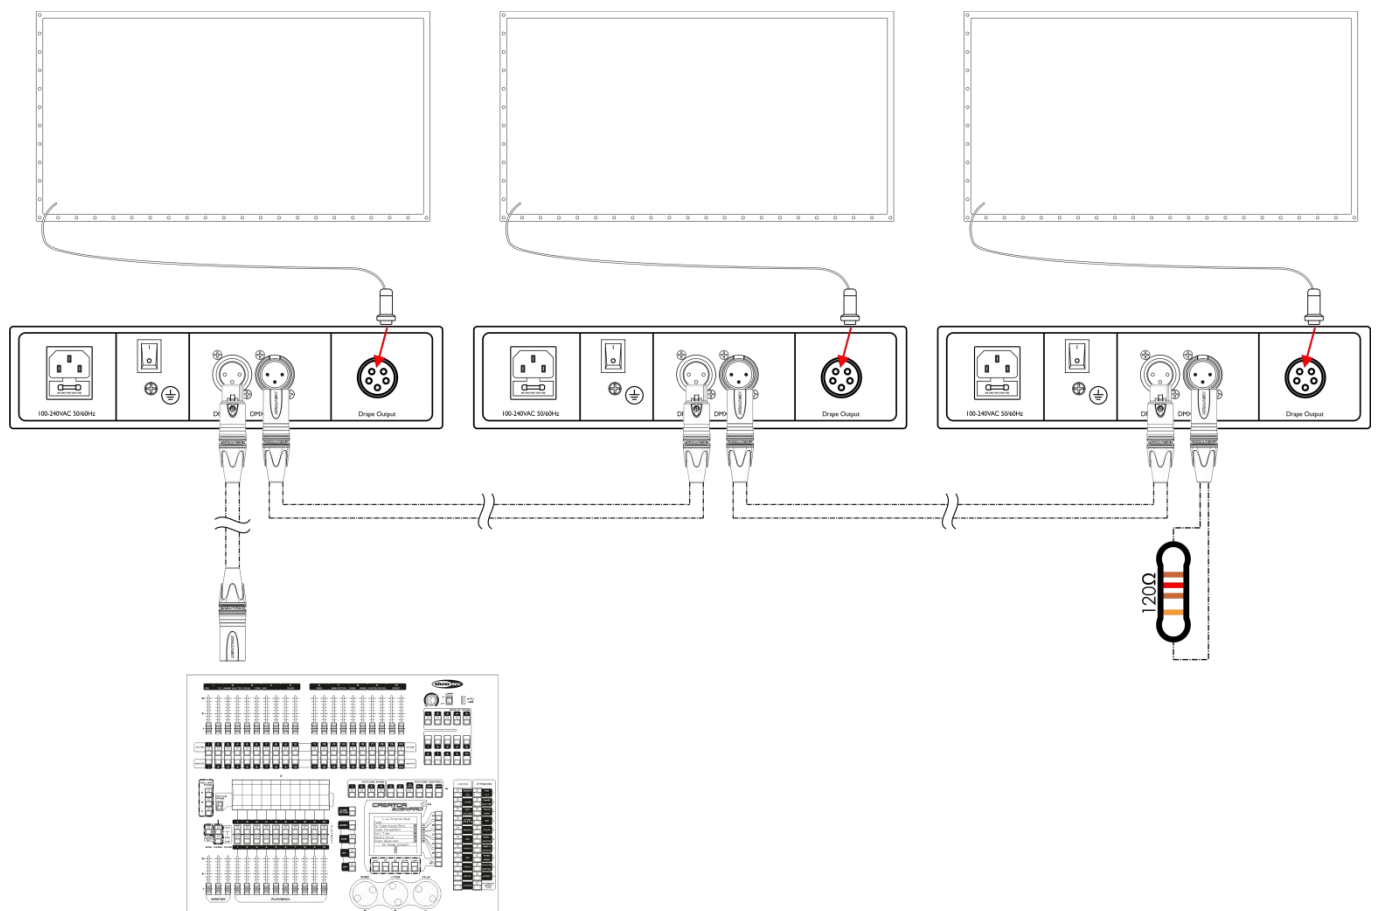

Fig. 04
- 04) Link the units as shown in fig. 04. Connect the first unit's DMX "out" socket with the second unit's "in" socket, using a DMX-signal cable. Repeat this process to link the second, third, and fourth units.